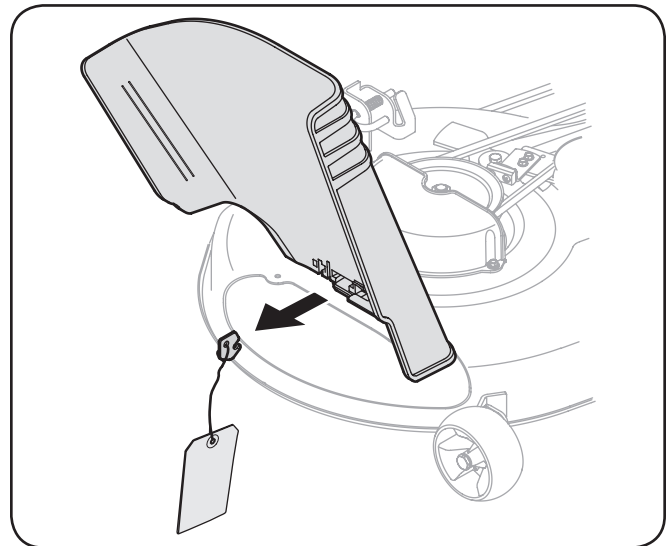

Figure 3-2
1. Locate the shipping brace, if present, and accompanying warning tag found on the right side of the mower, between the discharge chute and the cutting deck. See Figure 3-2.